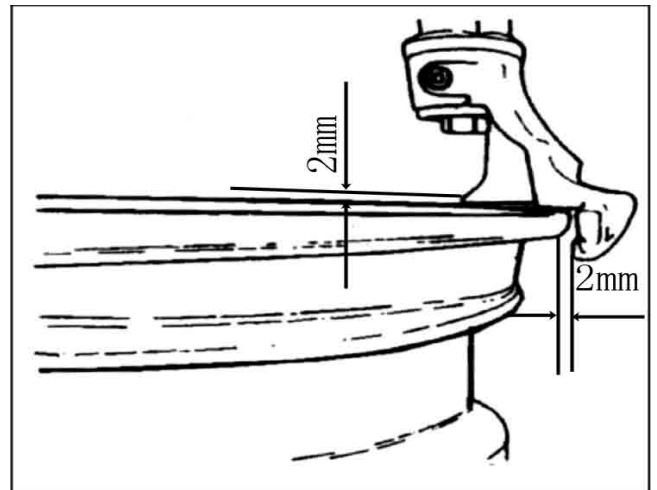

FIG 19
4.1.3 Position the hexangular shaft (FIG 2-3) to the working position to make the demount tool close to the rim of the wheel. And use the hand wheel (FIG 7-2) to push against the rocker arm and then use the lock handle(FIG 2-12) to lock. The demount tool will automatically move a little of gap (FIG19).